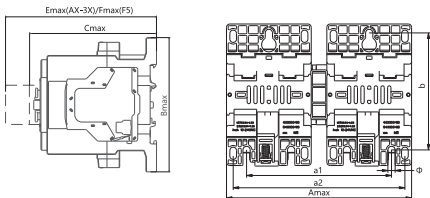

Figure 6 Installation and overall dimensions of NXC-40(CS)/N~100(CS)/N series AC contactors
3.6 See Figure 6 and Table 8 for the installation and overall dimensions and wiring capacity of NXC-40/N~100/N series AC contactors. See label on the box for model, specifications and weight. NXC-40(CS)/N~100(CS)/N